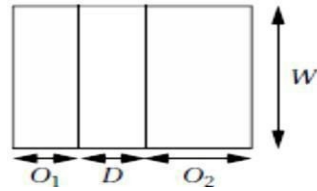

Fig 2.13.1 Times and data volumes in a basic bus transfer
- As shown in Fig 2.13.1, a basic bus transfer transfers a  $W$ -wide set of bytes.